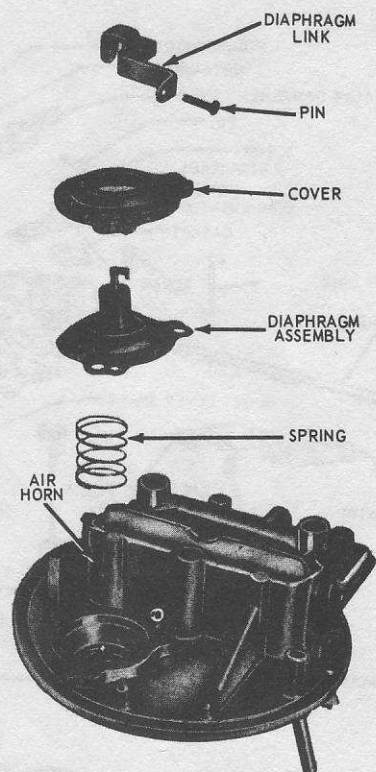

Fig. 3.49 Removing the choke diaphragm assembly (2100D carburetor) (Sec. 21)
- 5 Remove the choke diaphragm assembly (Fig. 3.49).